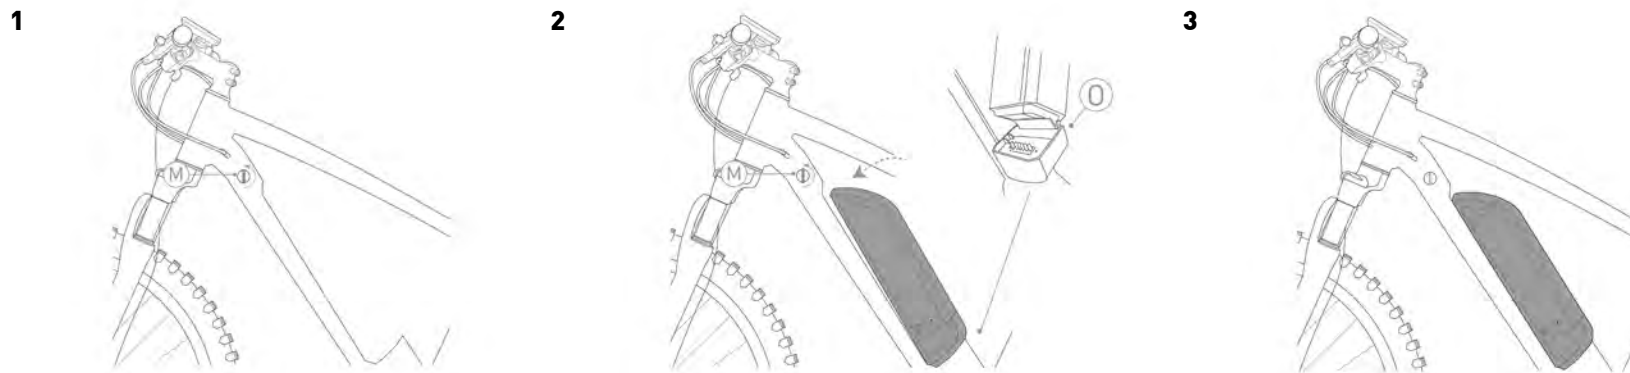

FIG. 8
1. For this procedure, enter the key and keep it rotated counterclockwise (Ref. M - Figure 8).
2. Place the battery on the guides of the support and press towards the interlocking and match the electrical connector (Ref. O - Figure 8).